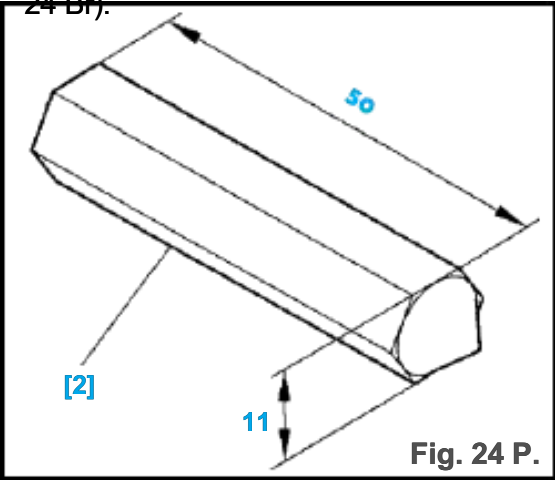

Fig. 24 P.
- plantear la varilla **[2]** (Ref. **9515T**) (Fig. 24 Br).